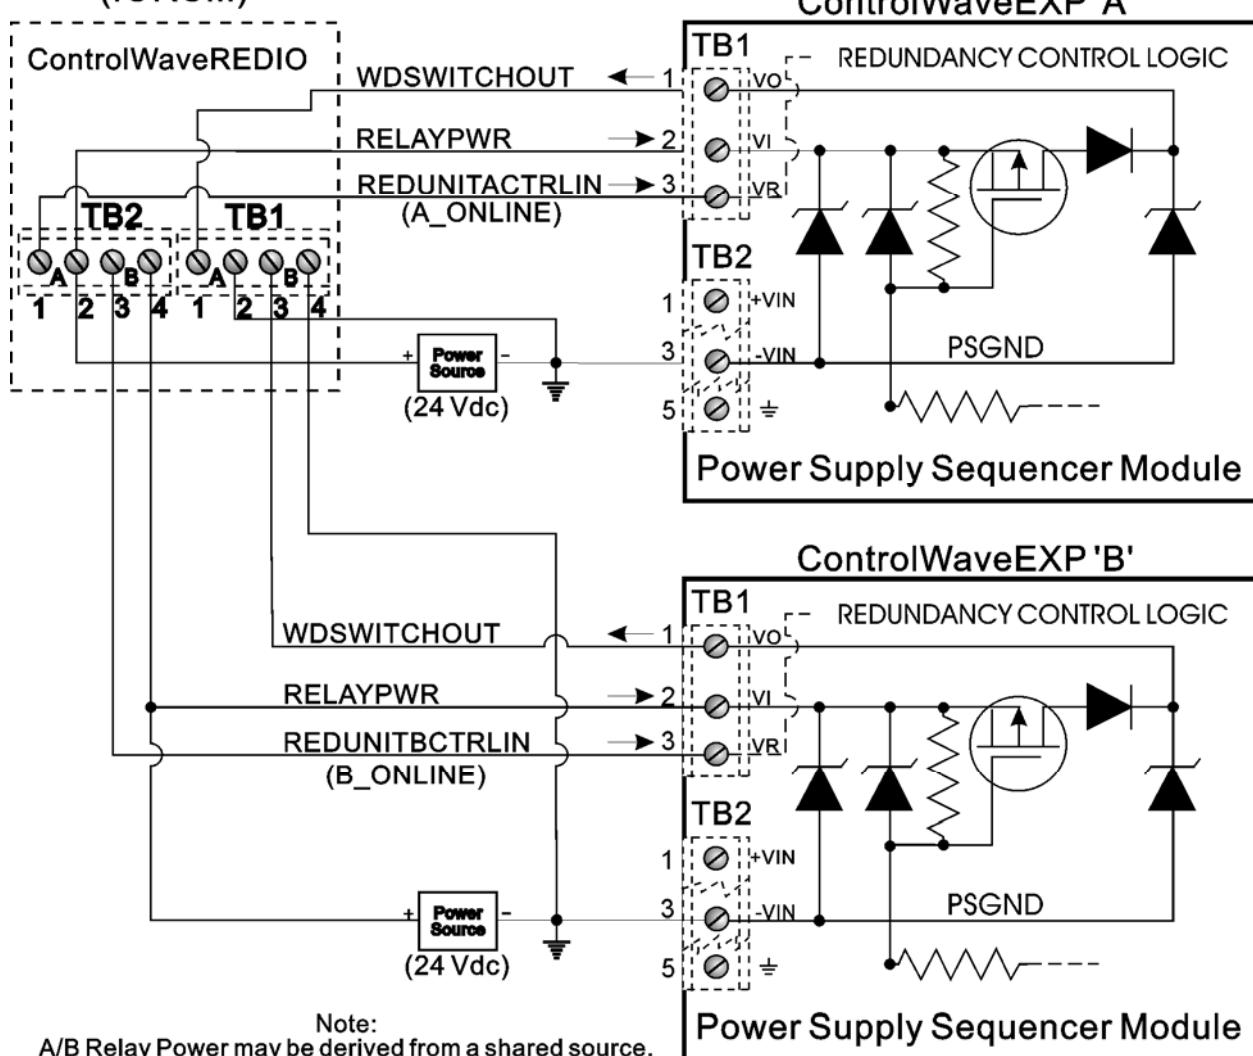

Figure 2-33 - ControlWaveREDIO to ControlWave or ControlWaveEXP Redundancy Control Field Wiring
2.3.3.3 Redundancy Control Field Wiring (see Figure 2-33)